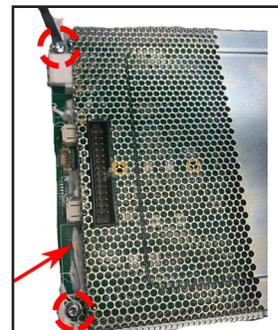

Figure 14. White Glue & Screws Removal
3.6 Use a spudger to separate the white glue from the edge of PCB as red arrow indicated in Figure 14.
3.7 Remove the 2 screws securing the Shield cover. Figure 14.